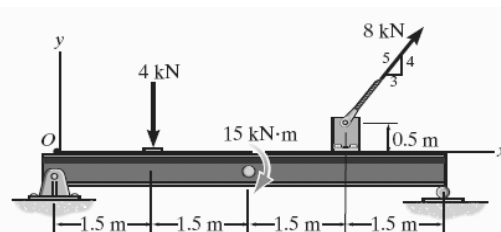

Figure 1-4
4. Replace the force and couple system acting on the member in **Figure 1-4** by an equivalent resultant force and couple moment acting at point O.